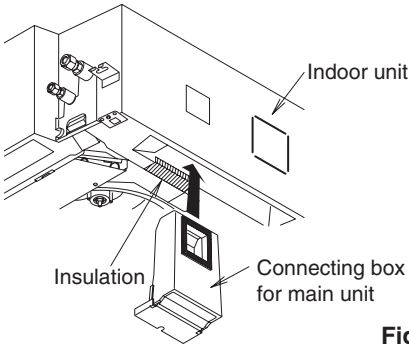

Fig. 2-325
- (2) Peel off the insulation of the shaded portion and insert the connecting box for the main unit from the air outlet of the main unit. (Fig. 2-325)
- (3) If there is a space between the styrofoam and the sheet-metal, this will result in condensation forming.